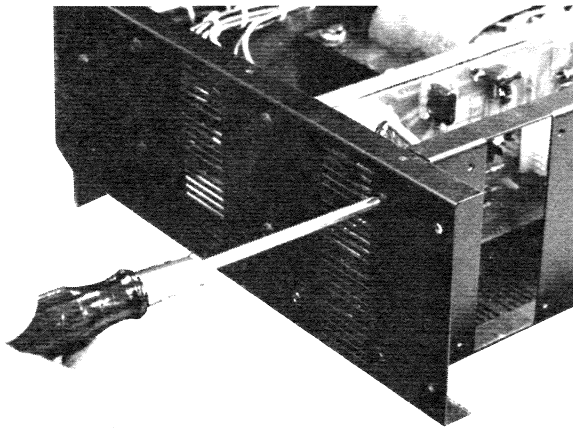
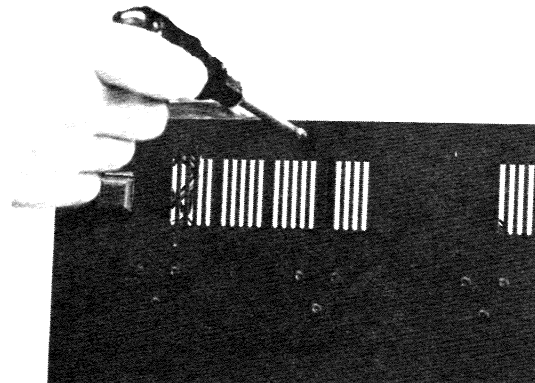

Fig. 9-2a.
Fig. 9-2b.
- 2) Loosen rear rail by removing two screws on each side of the rear rail (Fig. 9-2a), and screws on the bottom (Fig. 9-2b).